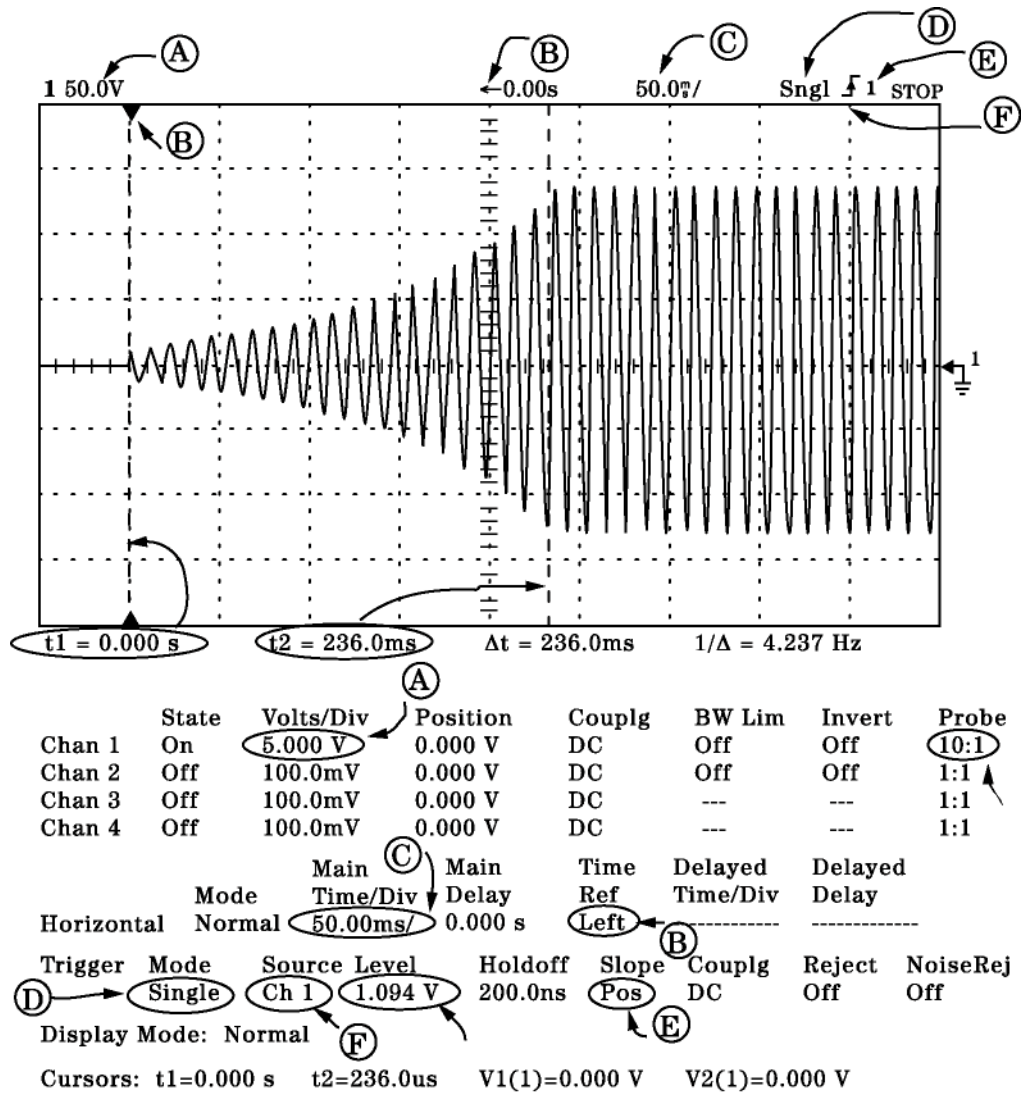

Figure 2 - Start-up of RC Phase-Shift Oscillator
- 1) Refer to Figure 2, attached, showing the oscilloscope hardcopy of the start-up of the oscillator. Notice that all the necessary data are there, needed to set the controls of the oscilloscope to get it ready for capturing the start-up of the RC phase-shift oscillator.
b) Be sure to adjust the following oscilloscope settings (see Figure 2) with power still off: channel 1 probe = 10, channel 1 V/div = 5, trigger mode = single and source = 1, trigger level (or approximately equal to) +1V, main time/div = 50 ms.
c) Turn power ON, and you should get a display similar to Figure 2.